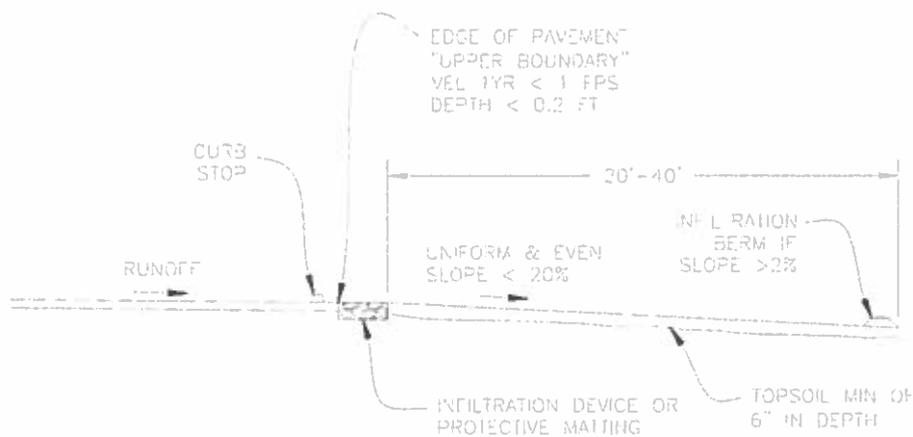

Figure 4-15: Engineered Vegetative Filter Strip
- (3) *Slope Restrictions:* No portion of the filter area shall exceed a slope of 20%.
- (4) *Minimum Dimension in Direction of Flow:* The flow length over the vegetative filter or filter width must be at least 20 feet and no greater than 40 feet to be credited towards the required area. An additional level spreader may be added for additional length, effectively creating two filter strips in series.
- (5) *Upper Boundary Requirements:* The filter strip must run along the entire edge of the contributing area, no collection or routing allowed except following a water quality basin with flow attenuation or discharge from a level spreader to the filter strip. The soil along the upper boundary must be reinforced with protective matting or an infiltration trench (preferred). Refer to Figure 4.15 below.
- (6) *Velocity Restrictions:* Vegetative filter strips are susceptible to erosion and the formation of rills; therefore, may require the use of a flow spreader or an infiltration trench to spread flows and dissipate erosive velocities.